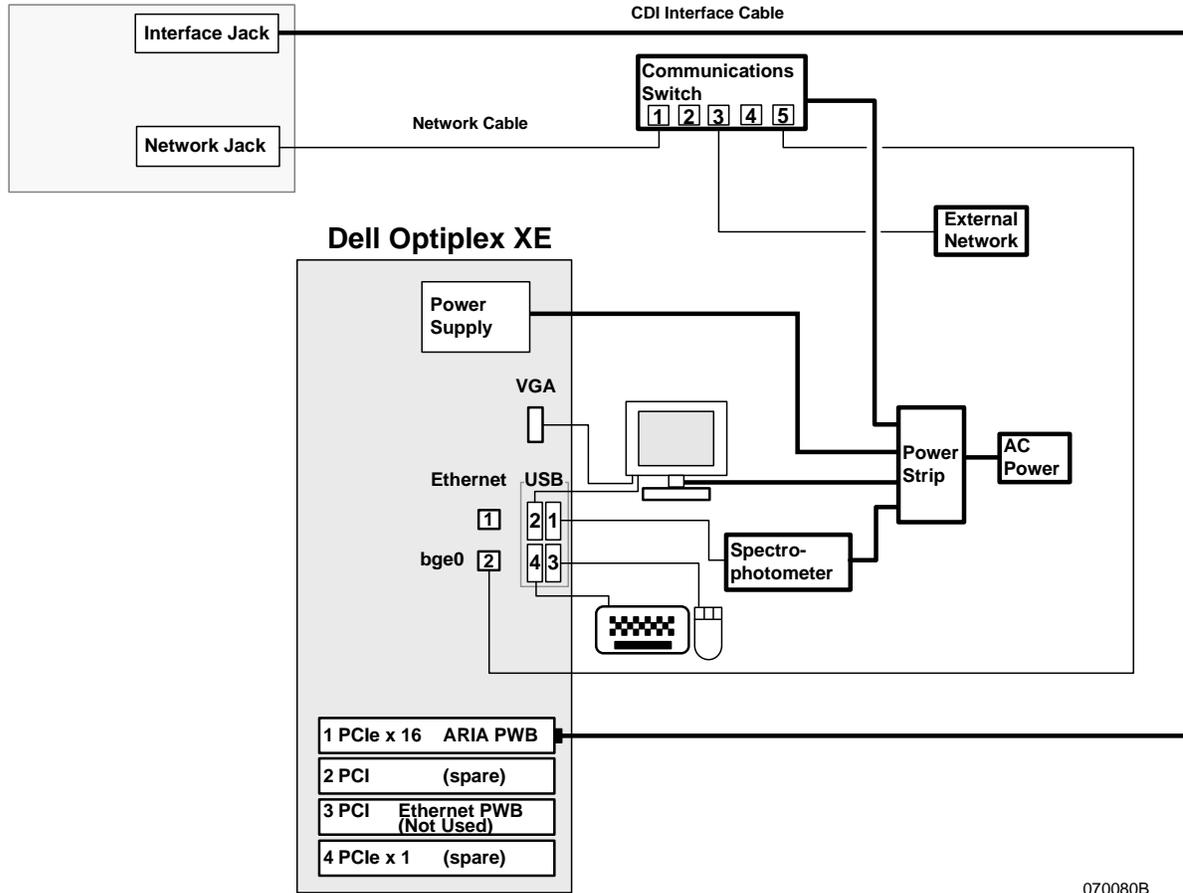

Figure 2.2 - Dell Optiplex XE Connection Diagram (Product Code A8Y)
- __4. Check and ensure the following (refer to Figure 2.2):